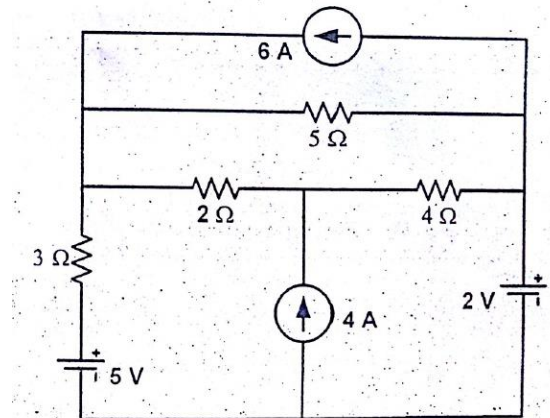

**Fig. 3.2**
2. Use nodal analysis to find the current and voltage drop through 5 Ohm Resistor of the circuit shown in Fig. 3.2. [Ans: 1A, 5V]